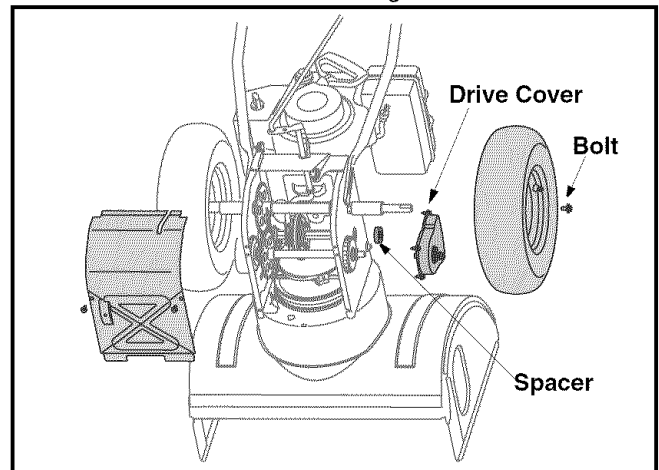

Figure 25
- Remove the four screws securing the right drive cover to the frame. Remove the drive cover from the side of the frame. See Figure 25.